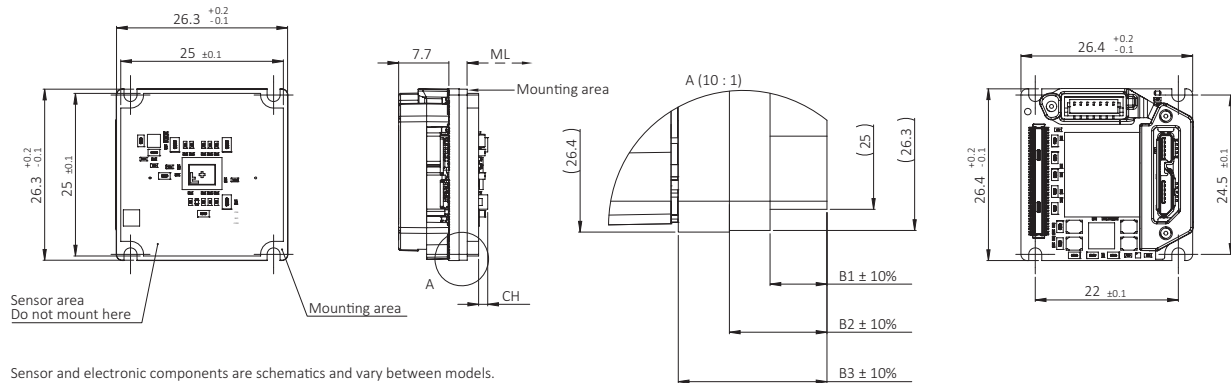

Figure 5: USB Bare Board dimensions
Dimensions that are common between different models are shown in Figure 5, model specific dimensions are listed in Table 11. **Mechanical length (ML)** defines the mechanical distance from the mounting area to the lens mount front flange. **Components height (CH)** relates to the electronic components with maximum height, in some cases the sensor.